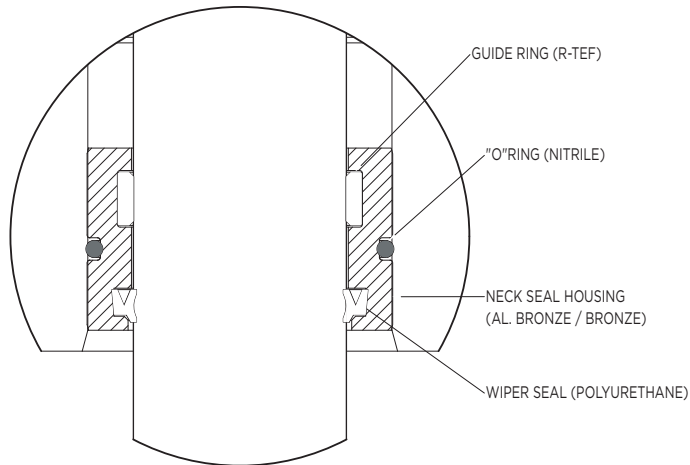

Figure 4: Neck Seal Assembly (319)
See **Figure 4**. The rod seal (317) and wiper (319) are installed in the Neck seal housing. The housing (316) assembled with Head (320) in press fit. Attempting to replace the housing (316) and O-ring (318) may damage the cylinder head (320). Please contact your local Bray representative if the neck seal housing needs to be replaced.